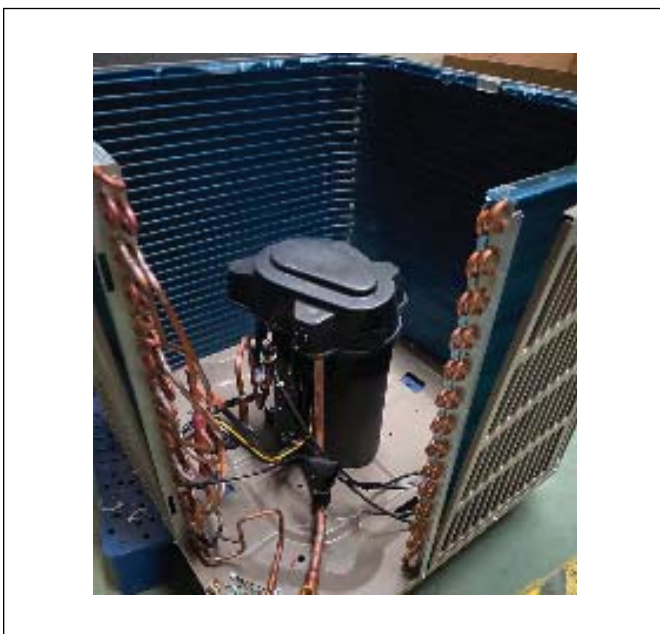

Figure 9 E-box, Bottom Access Panel, Reactor Box Removed
12. Unit should look like should look like Figure 9.